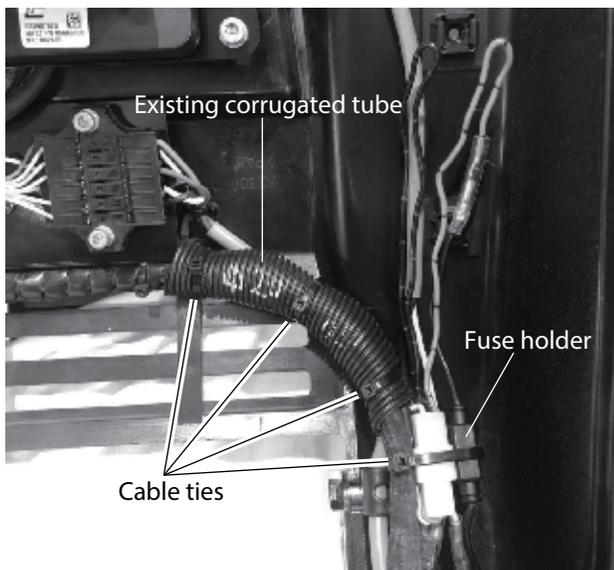

Figure 24. Secure Fuse Holder
- Secure the fuse folder (P/N 467352850) to the existing wire harness with cable ties (P/N 506010070). See Figure 24.
- Secure the existing corrugated tube with cable ties (P/N 506010070). See Figure 24.